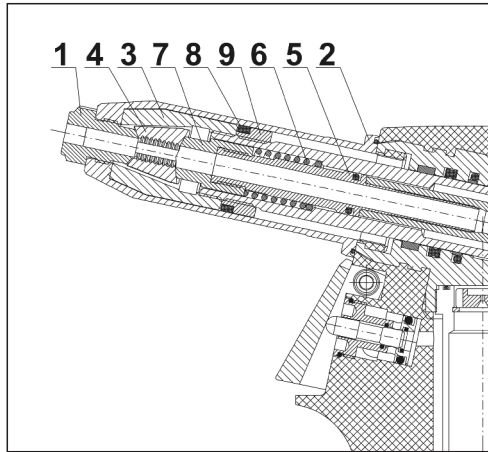

Fig. 2
Disconnect the tool from the source of compressed air, unscrew the front nose-piece /fig. 2 - pos. 2/ by means of a spanner no. 23, set the spanner no.17 onto the jaws /fig. 2 - pos. 3/, set the spanner no. 17 on the backnut /fig. 2 - pos. 9/ and loosen. Unscrew the clamping sleeve, replace the jaws /fig. 2 - pos. 4/ and conduit-suction complet /fig. 2 - pos. 5,6,7/. All used threads are clockwise. Clean the dismantled parts thoroughly and check them visually, especially the following:
- 1) Jaws /fig. 2 pos. 4/ - if worn or damaged, replace it, if dirty, clean it with a wire brush.
- 2) Nose-piece /fig. 2 pos. 1/ - for wear of functional surfaces of the taper.
- 3) Conduit-suction complet - inspect parts of the assembly, jaw pusher /fig. 2 - pos. 7/, spring /fig. 2 - pos. 6/ and conduit-suction /fig. 2 - pos. 5/ - if damaged or worn, replace it with a new one.
- 4) Front nozzle /fig. 2 - pos. 2/ - check for damage of the internal surface (\varnothing 20) .
- 5) Scraper ring /fig. 2 - pos. 8/ - if damaged or worn, replace it with a new one.
Mount the parts (see par. disassembly) in a reverse order. On the outer surface of the jaws /fig.2 pos.4/ apply a drop of lubricating oil (we recommend hydraulic oil HYPSPIN AWHM 32 CASTROL), apply thin layer of plastic lubricant MOGUL LV 2-3 to the conduit-suction complet /fig.2 pos.5,6,7/. Basic set-up of the jaws is performed as in fig. no. 3.